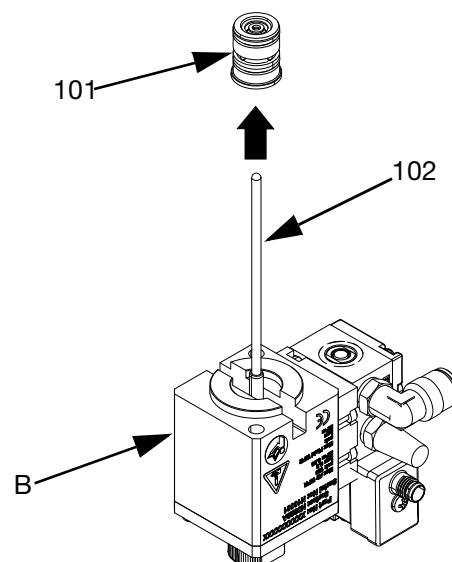

FIG. 13
1. Remove the seal kit (101) by sliding the seal kit off the Rod Assembly (102) shaft.
2. Inspect the Rod Assembly (102) tip and shaft for grooves or pitting. Replace the Rod Assembly if worn. See FIG. 13 page 21.